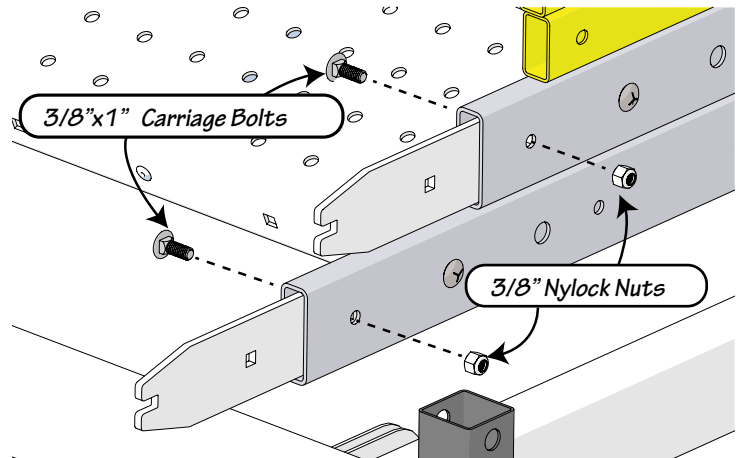

Fig. 7-1
- Locate (4) splice plates & (8) 3/8"x1" carriage bolts and matching nylock nuts from the supplied hardware.
- Working from the back. Insert splice plates into each end of the step side rails. As shown in Fig. 7-1.